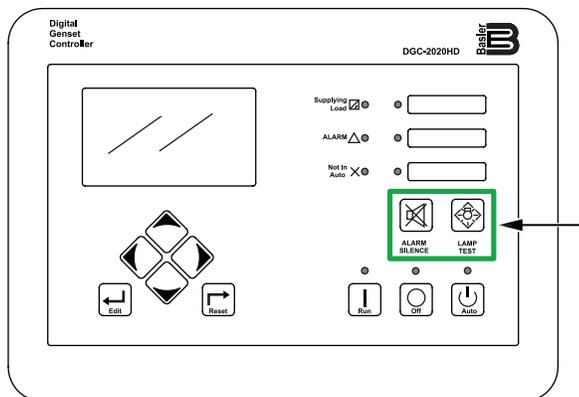

Figure 86. Digital Controller (Alarm Silence And Lamp Test Buttons)
1. Press the **Alarm Silence button** and the **Lamp Test button** (Figure 86) simultaneously for 5 seconds.